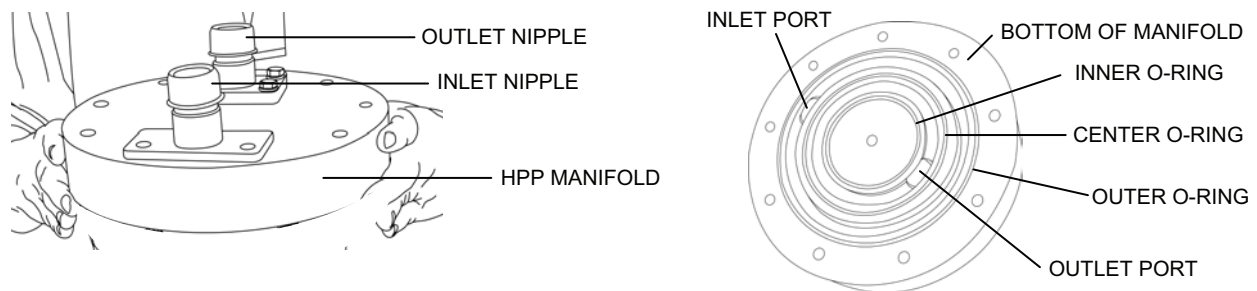

Figure 12. HPP Manifold Inspection.
11. Inspect and (if necessary) replace the manifold (see Figure 12).